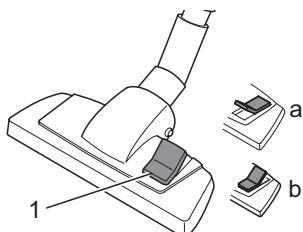

Fig. 12
4. Set the nozzle switch to "carpet" or "hard floor" according to the floor (Fig. 12) to be cleaned:
- **Hard floor (Fig. 12/A)**
- **Carpet (Fig. 12/B)**